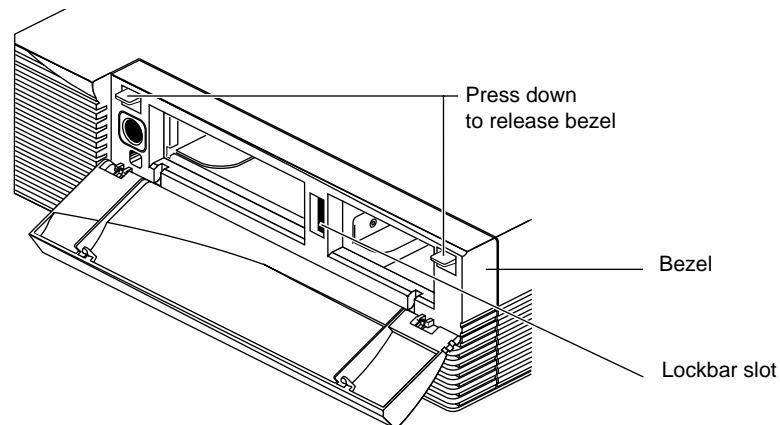

Figure 5-3 Releasing the Bezel
- Press down on the tabs on each side of the bezel, as shown in Figure 5-3.